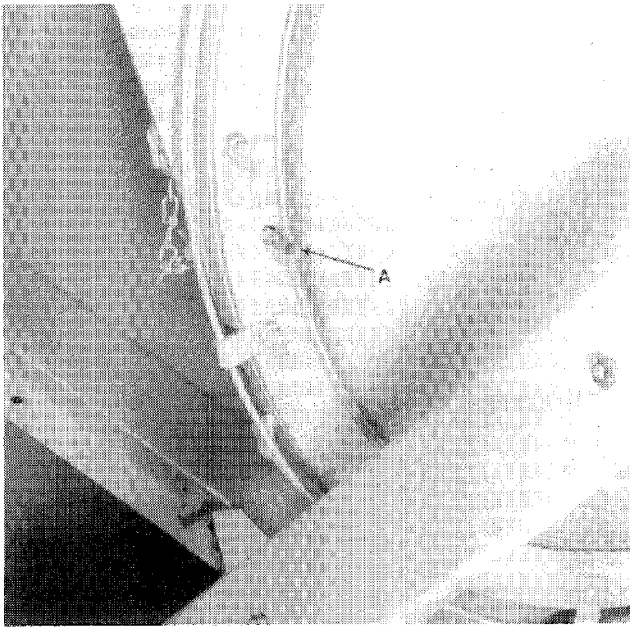

FIGURE 0-2
16. WHEN THE UNLOADING AUGER IS IN ITS OPERATING POSITION, INSTALL THE CYLINDER STOP, A, FIGURE 0-2, OR A, FIGURE 0-3, BEFORE WORKING ON OR SERVICING THE COMBINE.